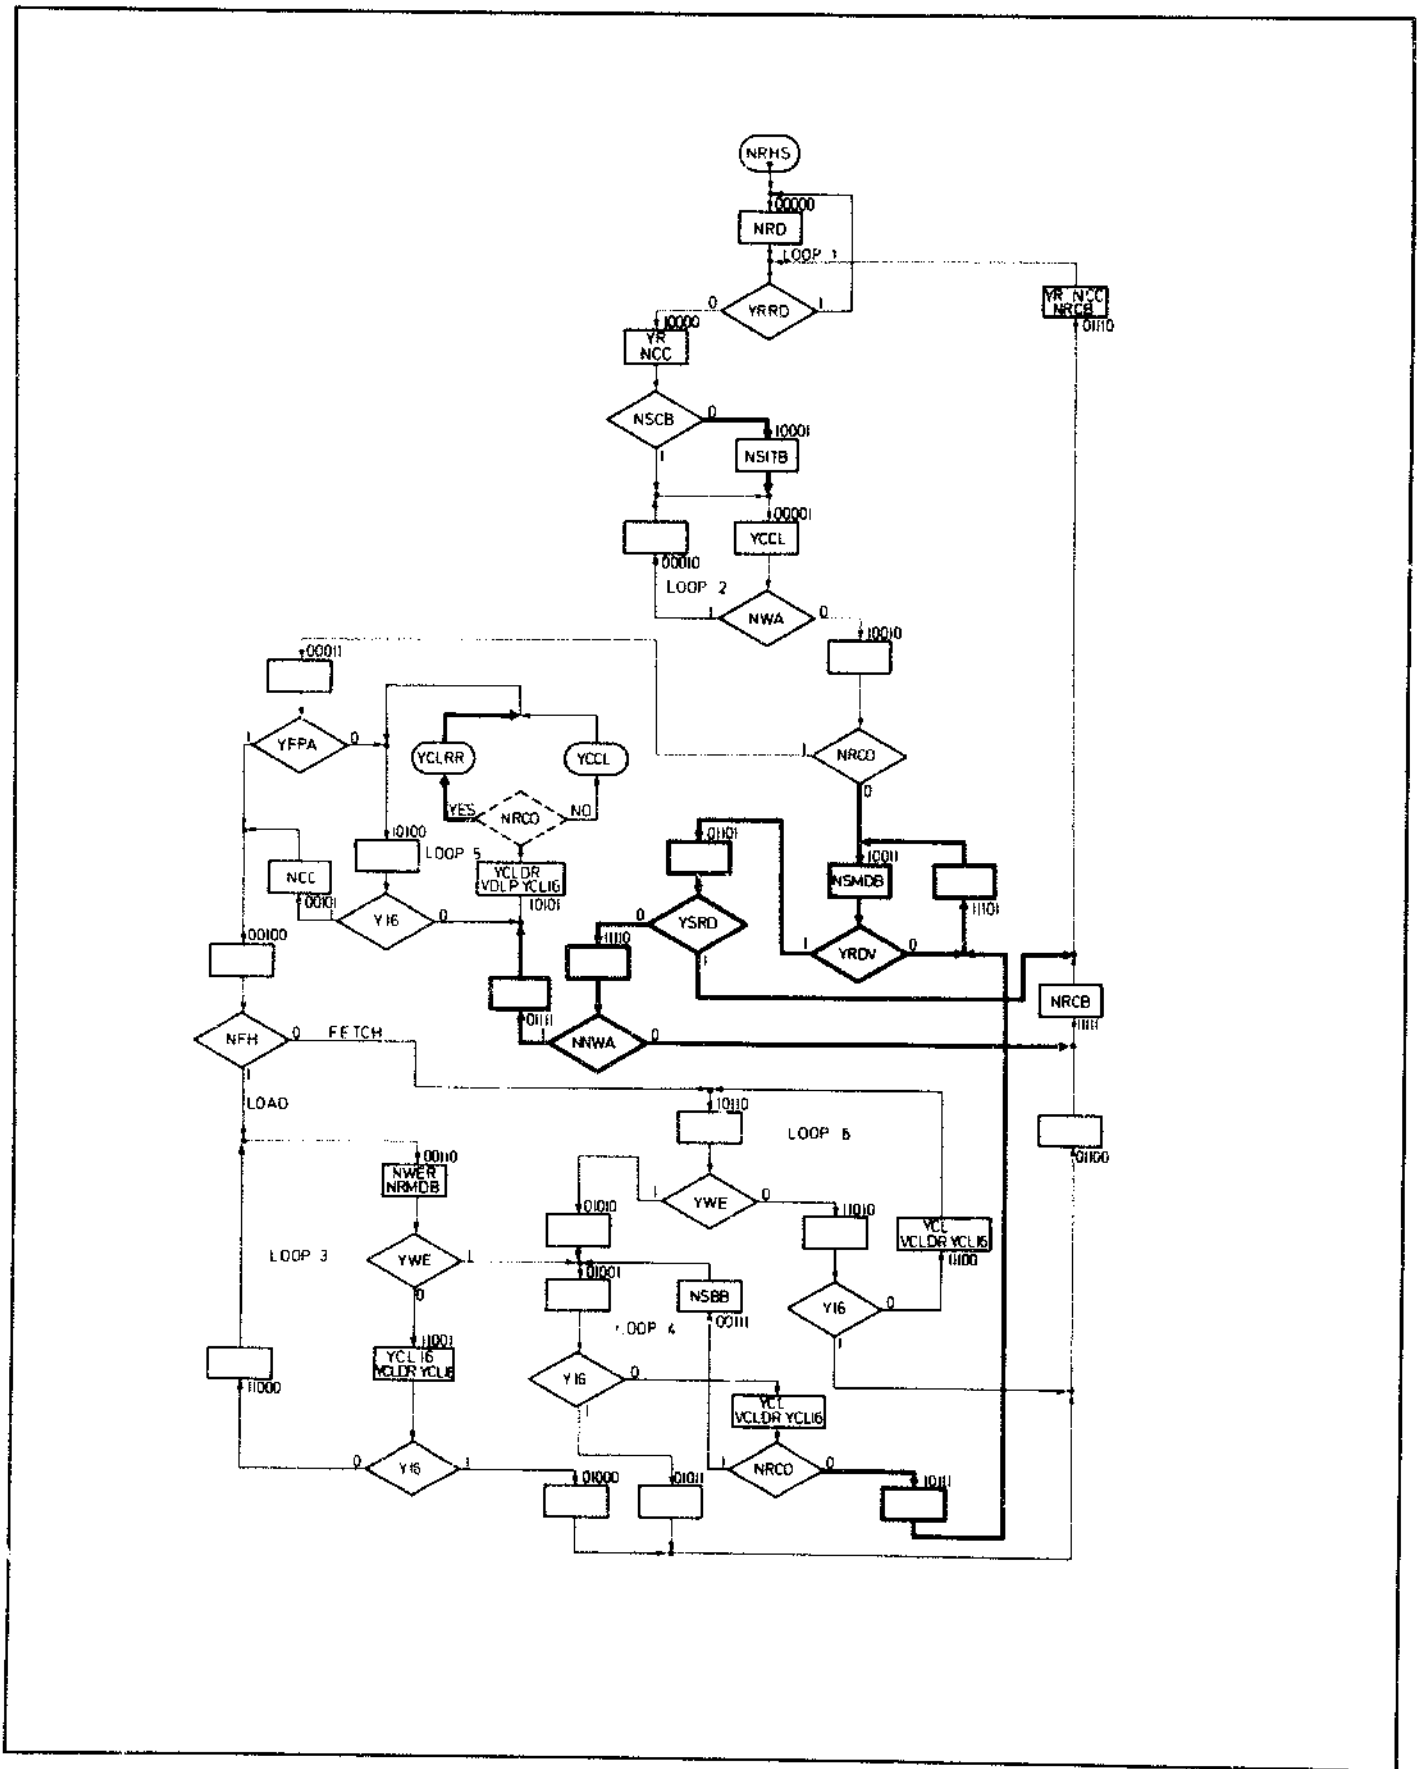

Figure 8-2-3. ASM Flowchart for Load Word Mode
7. Using the Logic Analyzer delay facility, compare actual program flow with the program listings given in Tables 8-2-3 and 8-2-4 (for pre-determined 8018A switch settings), and with their corresponding flowcharts, Figures 8-2-3 and 8-2-4 respectively.